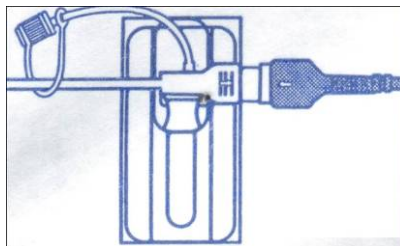

Figure 7-5 Secure the adhesive pad to mother
- 10) Remove the liner from the adhesive pad, and then adhere the pad to the patient's skin. Secure the catheter by placing the catheter attachment strap to the adhesive pad. (See Figure 7-5).